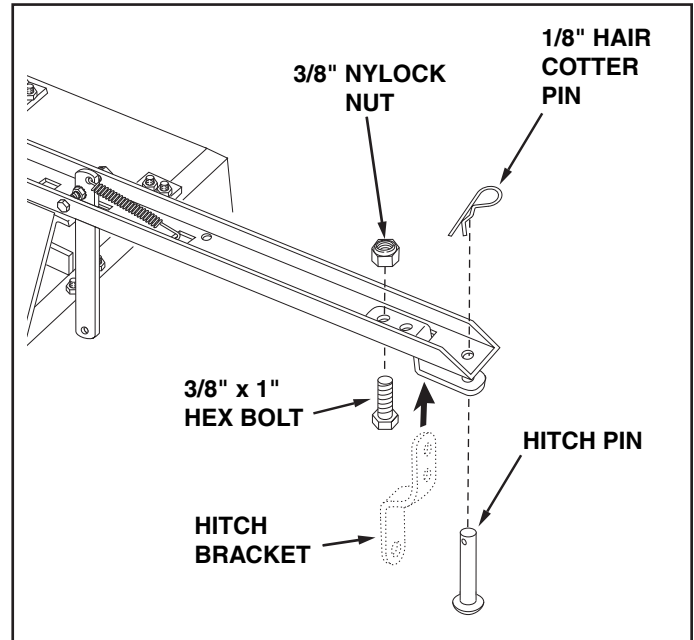

FIGURE 10
19. Assemble the end of the hitch bracket (two holes) up through the slot at the front of the drawbar tongue. Fasten it to the tongue using the 3/8" x 1" hex bolt and 3/8" nylock nut. **Tighten.** See figure 10.
20. Assemble the hitch pin through the hitch bracket and the tongue and secure it with the 1/8" hair cotter pin. See figure 10.